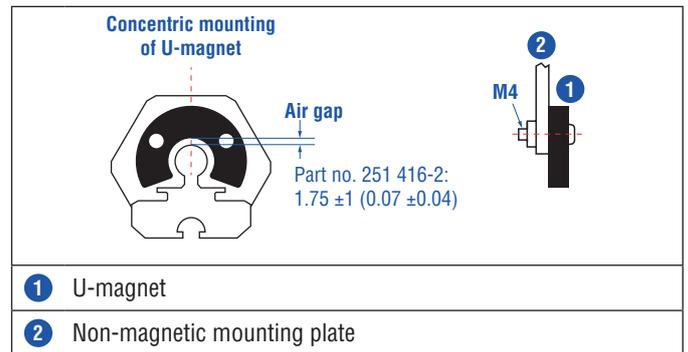
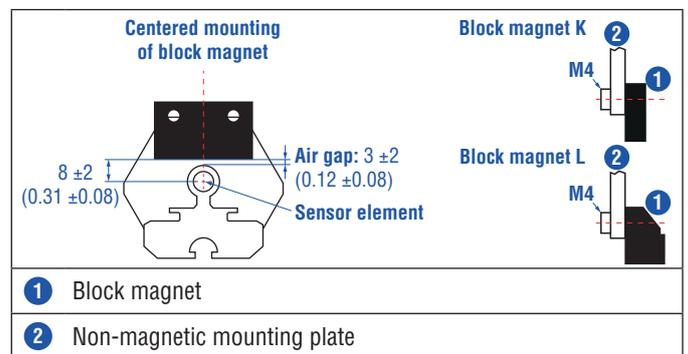

Fig. 13: Mounting of U-magnet (part no. 251 416-2)
Fig. 14: Mounting of block magnet (part no. 403 448)
- The maximum permissible air gap must not be exceeded (Fig. 13/Fig. 14).